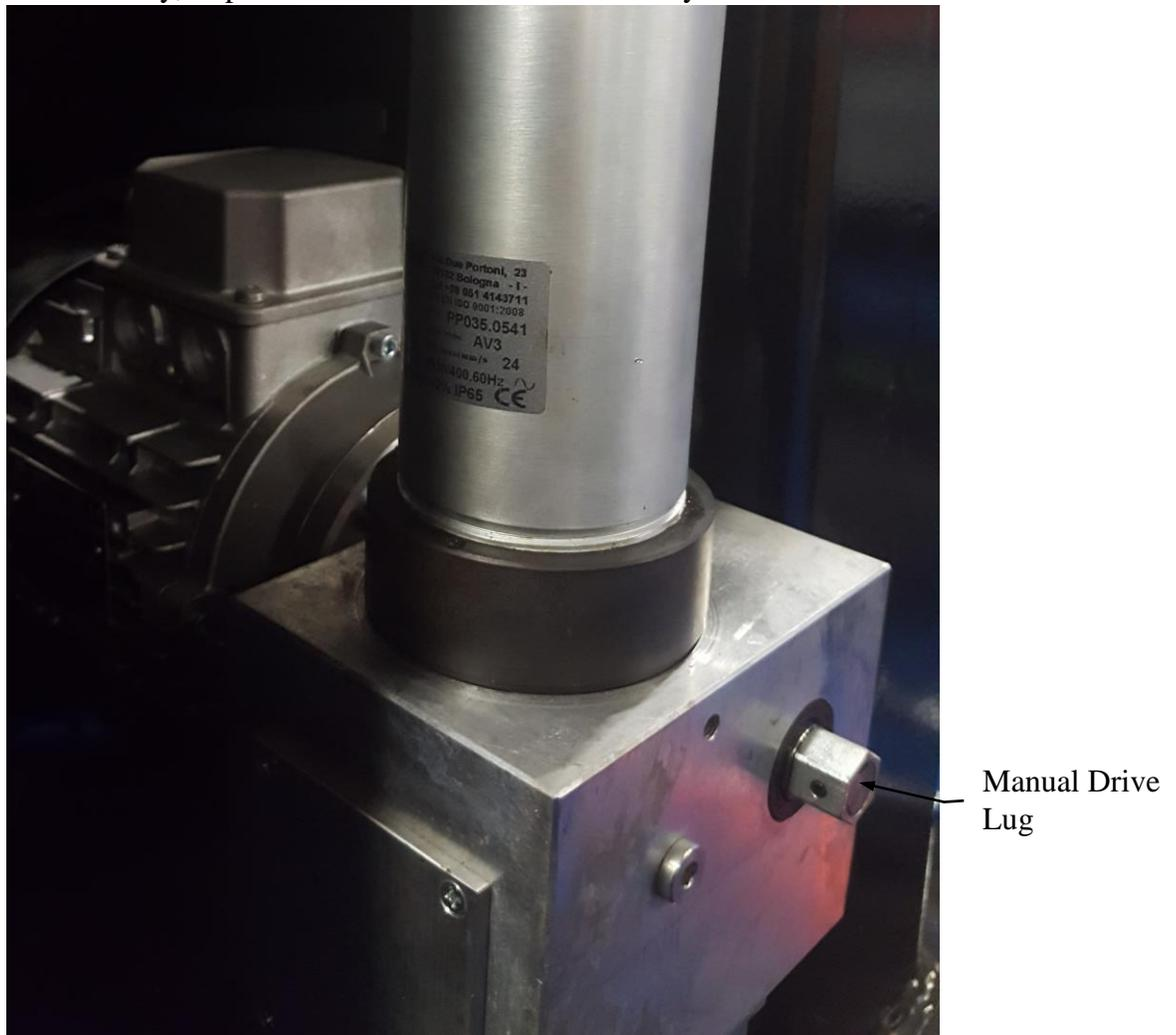

Figure 6 - Manual Drive Lug on 775Ex series
- 3.5.3. Attach a $\frac{3}{4}$ in. socket to a battery powered drill. Use the drill to drive the manual drive sprocket **CLOCKWISE** to **OPEN** the arm or **COUNTERCLOCKWISE** to **CLOSE** the arm. See *Figure 6 - Manual Drive Lug on 775Ex series*. Alternatively, a speed wrench with a $\frac{3}{4}$ in. socket may be used.